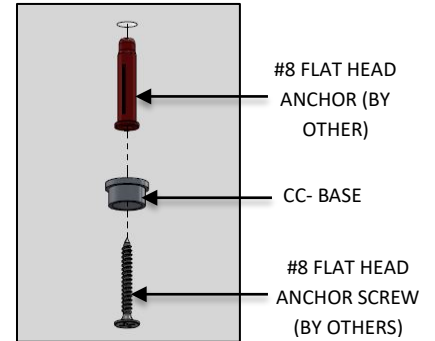

FIG. 11- HARD CEILING INSTALLATION
4. Install the CC-BASE to the #8 FLAT HEAD ANCHOR (by others) previously installed at the non-powered mounting location and secure with the #8 FLAT HEAD ANCHOR SCREW (by others) as shown in FIG. 11.